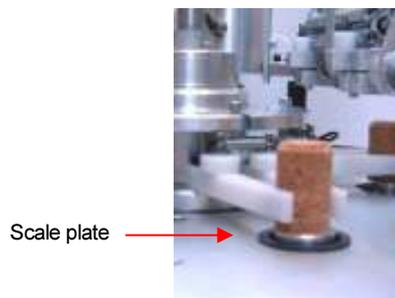

Figure 3 - Scale
3. **Place the scale plate** in the weight station (see Figure 3);